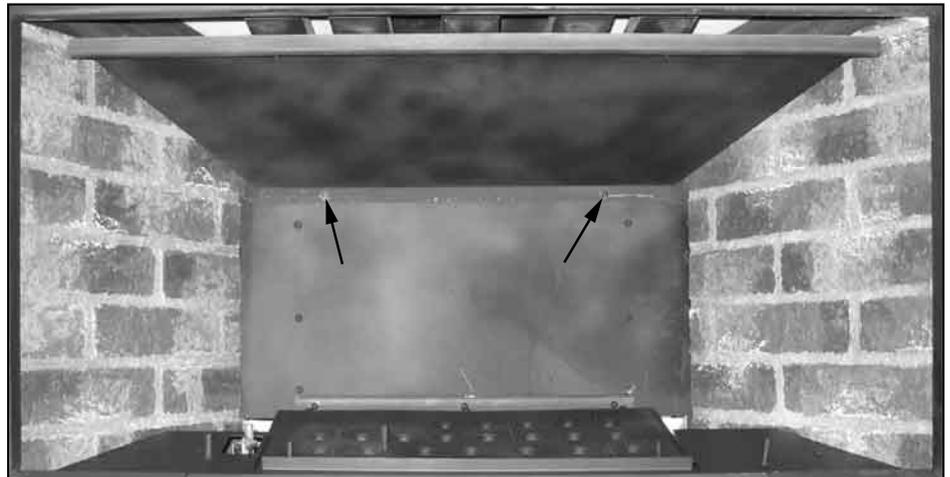

Figure 33: Brick Panel Installation.
6. Remove the two (2) T-20 screws holding the bottom of the baffle (shown in Figure 33).